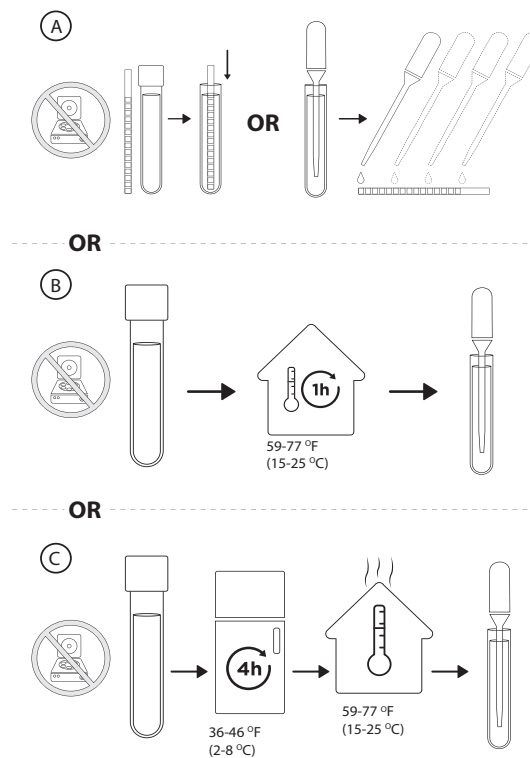

Fig. 9 Sample Handling for the UA: do not centrifuge samples. Samples may be
Analyzing fresh, well-mixed urine will yield the most accurate results.¹ Do not centrifuge urine samples before use on the VETSCAN UA. Urine samples may be tested on the VETSCAN UA immediately after collection to up to one hour post collection, if stored at room temperature (59-77 °F, 15-25 °C) (Fig. 9 (A) - (B)). If they are not tested within one hour of collection, samples may be refrigerated (36-46 °F, 2-8 °C) for up to 4 hours. Cold samples must be warmed to room temperature (59-77 °F, 15-25 °C) prior to testing. (Fig. 9 (C)).